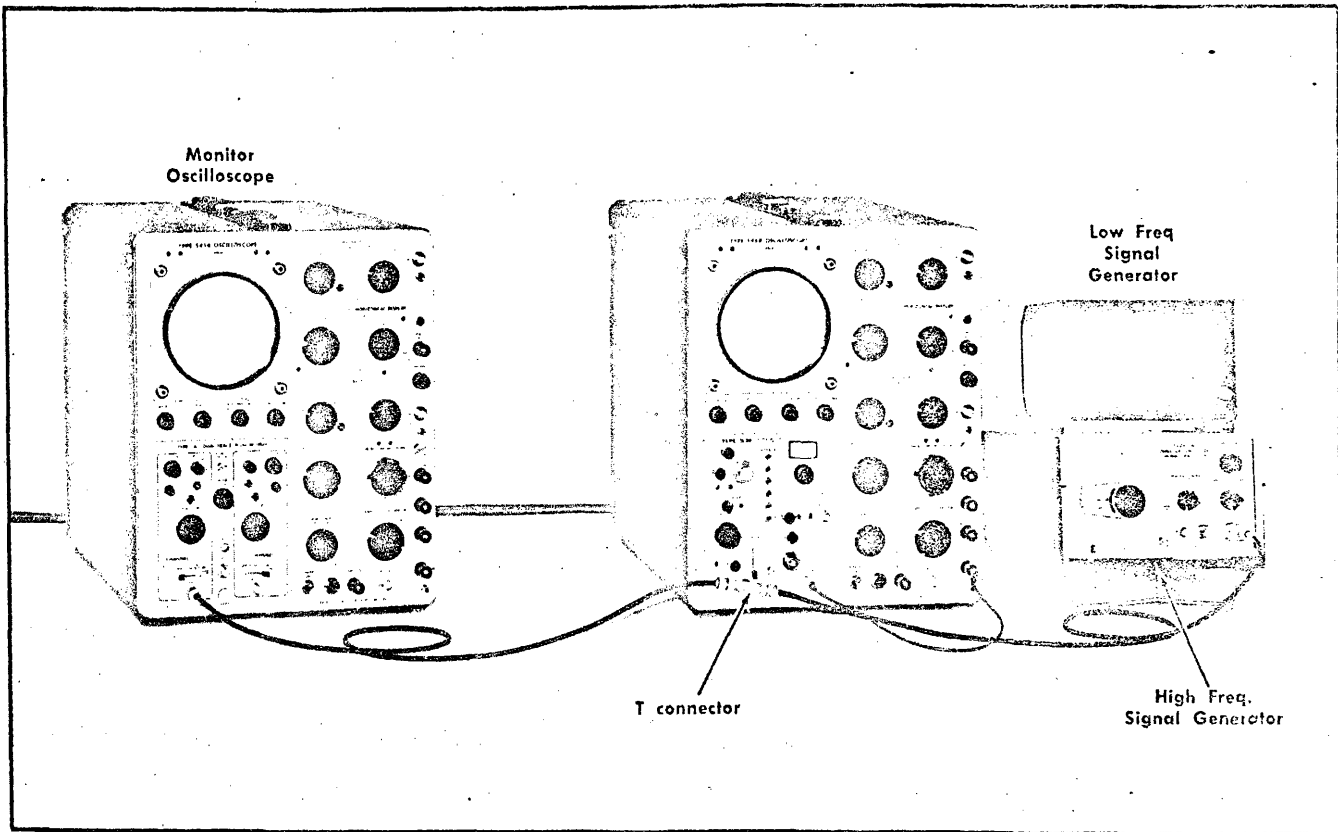

Fig. 6-22. Equipment setup to check video bandpass (step 14).
- Equipment setup is shown in Fig. 6-22.